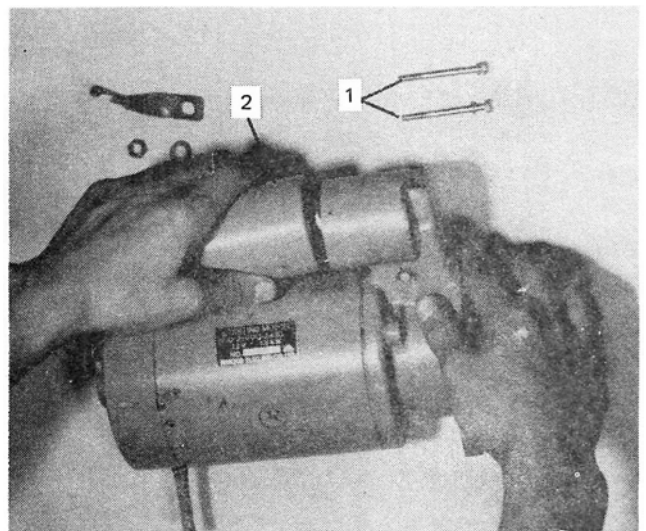

Figure 21
2. Remove the retainings bolts and the solenoid assembly from the starting motor Figure 21.